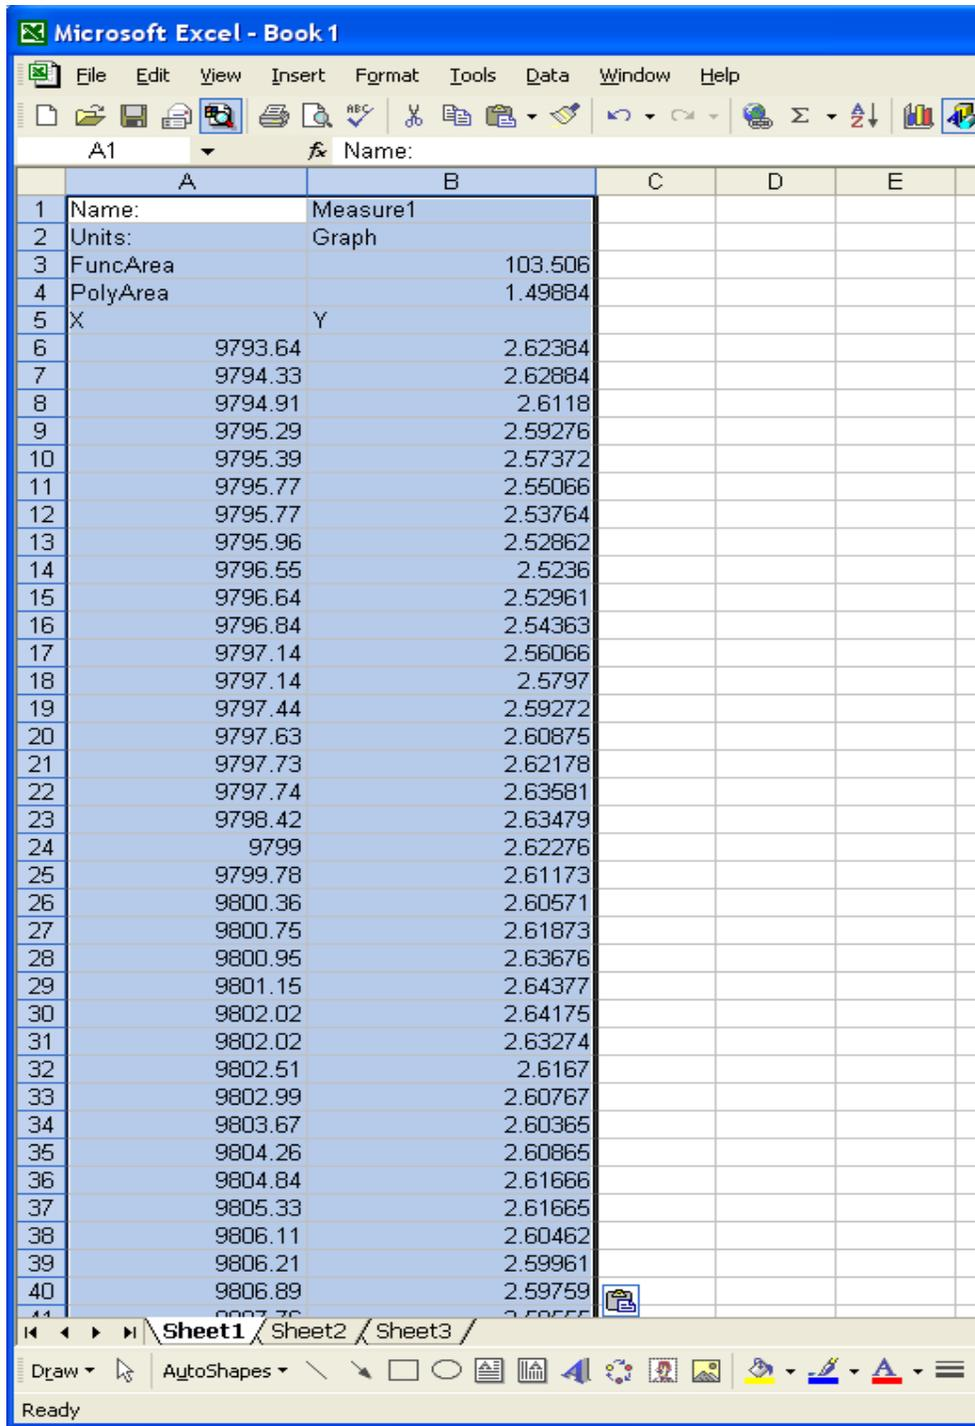
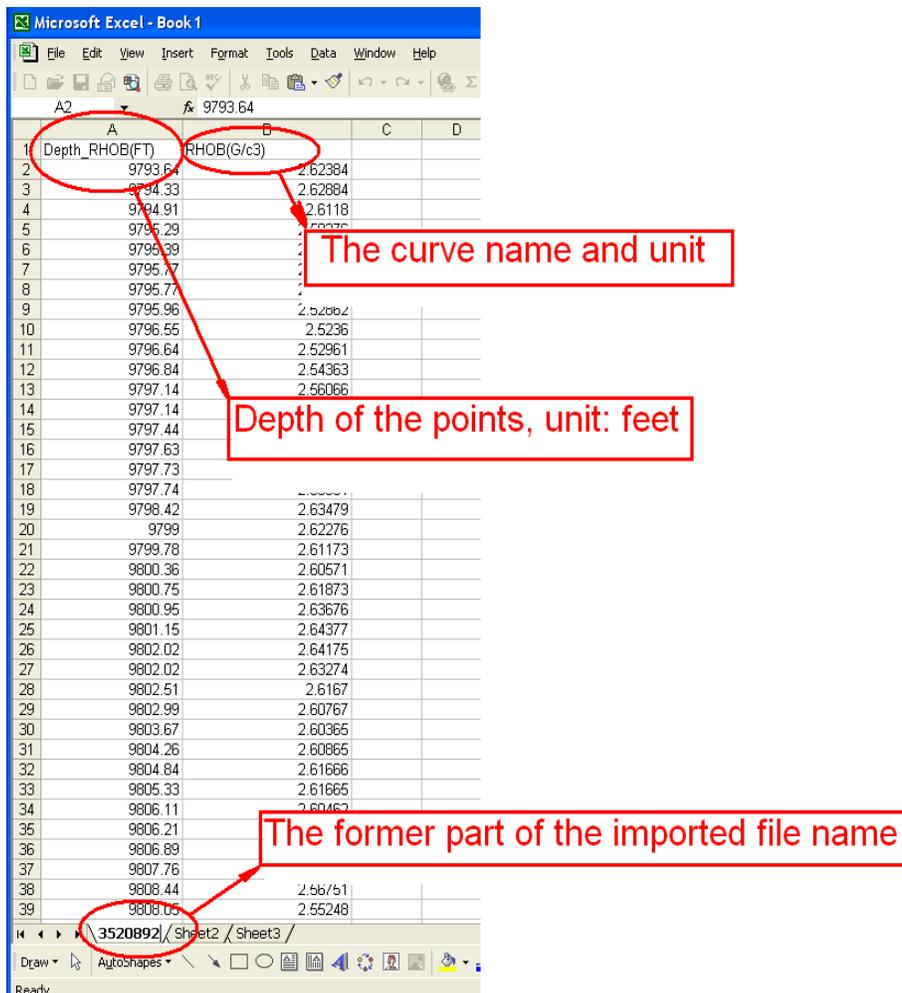

Figure 14, Paste the data into a spreadsheet within Excel
Figure 15, modify the column name and change the sheet’s name
- d. Paste the data you just copied to a spreadsheet of Excel.(Figure 14)
- e. Delete the unwanted rows in Figure 14 (from the 1st row to the 4th row). Change “X” and “Y” to appropriate names and use the appropriate units --- these info can be found from the legend of the log you just digitized. In this case, “X” is replaced by “Depth_RHOB(FT)”; “Y” is replaced by “RHOB(G/c3)”. Change the spreadsheet name from “Sheet1” to a number which is the first part of the imported file’s name (that is, the unique well ID as shown in Figure 15). For example, in this case, the “Sheet1” is replaced by “3520892”. The original imported file name is: